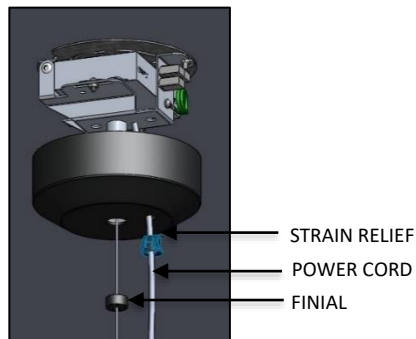
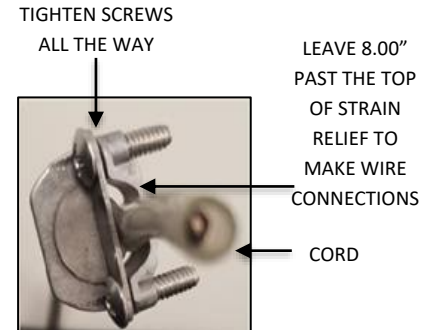

FIG. 13 – CORD INSTALLATION
FIG. 14 – STRAIN RELIEF WITH CORD
- Feed POWER CORD through the 2ND hole in the CANOPY and secure at desired length by using the STRAIN RELIEF provided as shown below in FIG. 13. Leave minimum of 8.00" past the top of the STRAIN RELIEF for making wire connections to DRIVER as shown in FIG. 14.